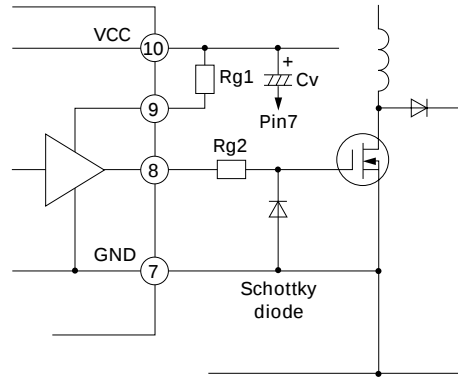

Fig. 8 Output circuit
As Fig. 8 shows, pin 9 is configured as the high power terminal (VC), independent of the IC power terminal (VCC). This pin allows an independent drive resistance when the power MOSFET is ON and OFF. If the drive resistances in the ON and OFF states are  $R_{g(on)}$  and  $R_{g(off)}$ , the following formulas can be used to determine the total gate resistance